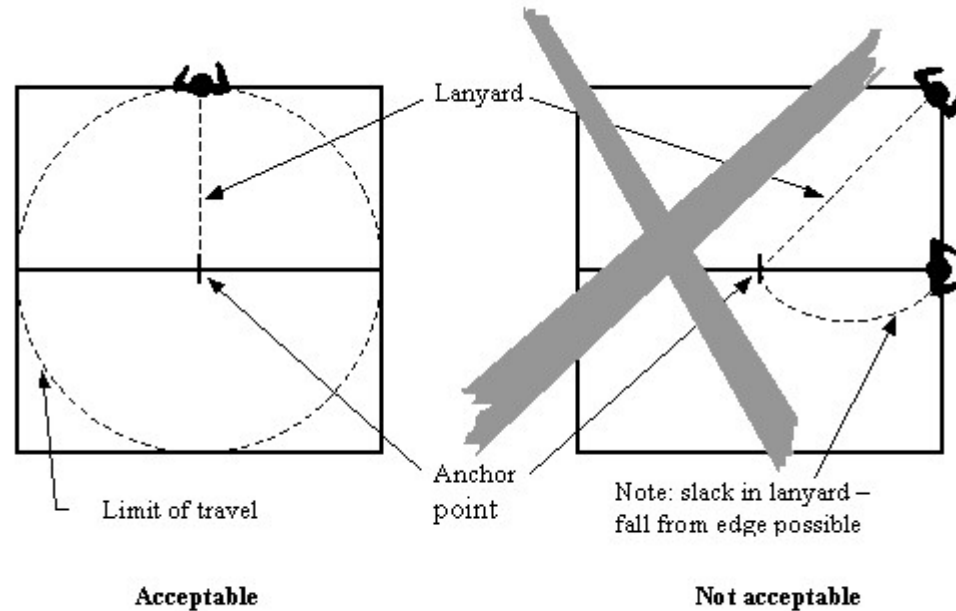

Figure 3 – Roof work using travel restraint
- If user is attaching themselves to the lanyard at point shorter than the unprotected edge the user is not to make any further adjustment unless an assessment is made as to the pendulum effect and this not to occur if the limit of travel point has been reached see Figure 3.
- One example of inappropriate set up is shown in the right hand diagram in Figure 3.